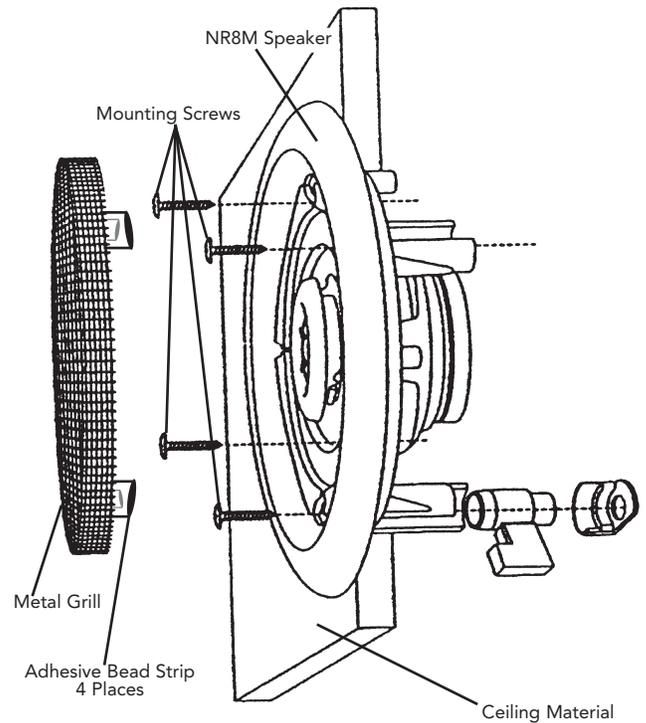

FIGURE 2
Step 3 Remove grill cover from speaker. Use four screws provided to fasten speaker to the opening in ceiling. Install the speaker in the ceiling opening, as shown in figure 2. Turn the mounting clamp screws clockwise until the speaker is secure. **DO NOT OVER TIGHTEN** the screws. This can damage the speaker and/or the ceiling material and make the metal grill difficult to install.
Step 4 Divide each adhesive bead strip in half. (Adhesive bead strips are in clear plastic self closing bag). Place strips on edge of grill as shown in figure 2. Reinstall grill on speaker.